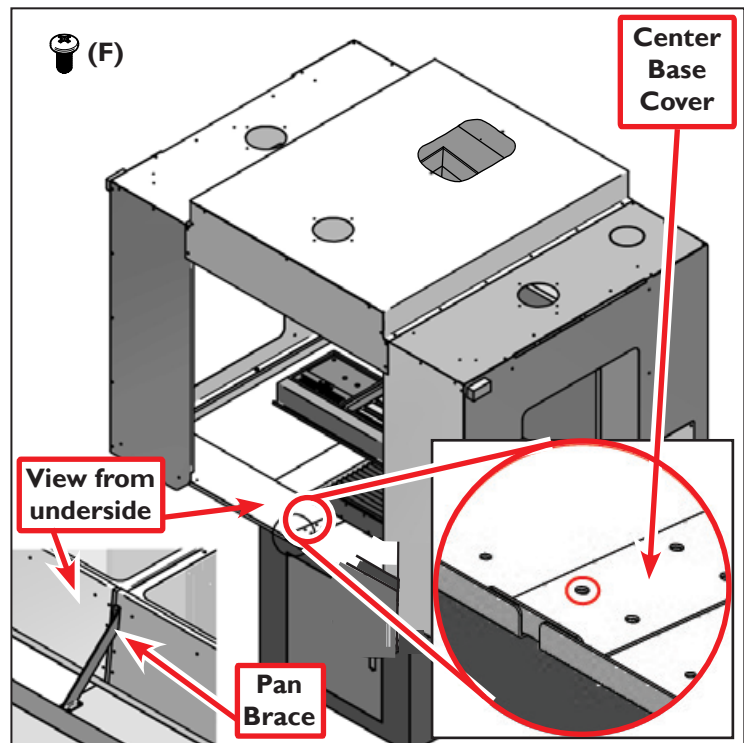

Figure 19
45. Place the Center Base Cover (E.33) over the left and right door bases (see **Figure 19**). Loosely fasten with (F) screws along the edges of the panel.
46. Thread (F) screw through the Center Base Cover (E.33), through the left door base and into the flange of the Pan Brace at the screw location (see **Figure 19**). Once all screws are in and started, tighten securely.
47. The Pan Brace has two holes where the brace meets the chip pan (see **Figure 19**). These holes are provided so you can drill and tap the chip pan using a .159" diameter drill bit and a 10-32 tap. Once holes are drilled and tapped, fasten with (F) screws.